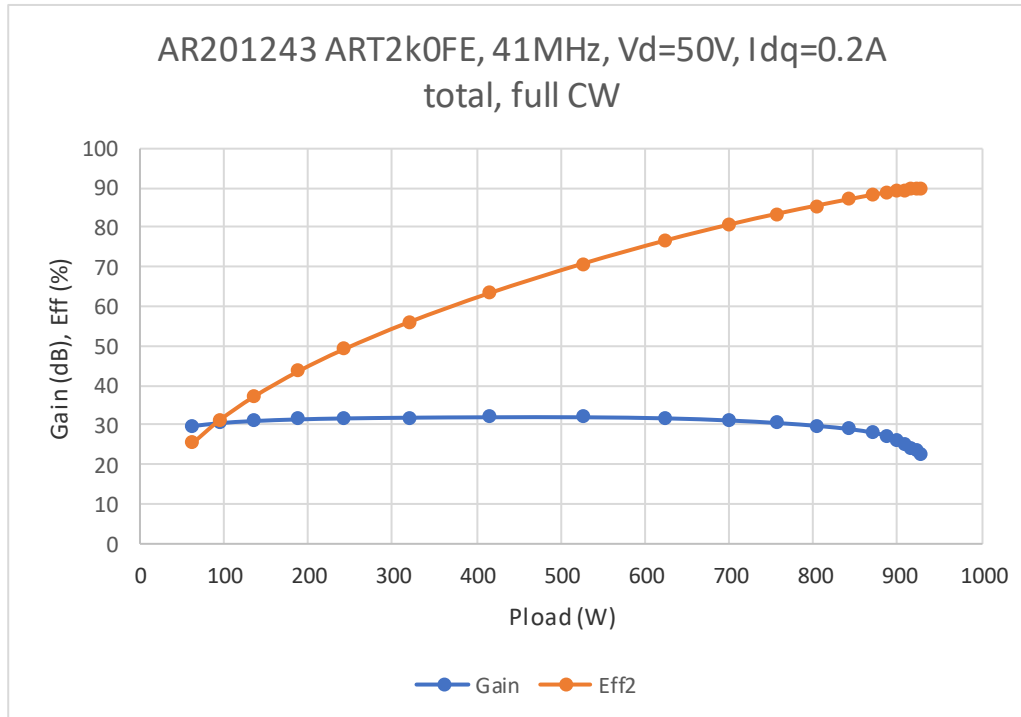

Figure 2 Full CW Gain and Efficiency vs Load power
- 3. List of figures 2
- Figure 2 Full CW Gain and Efficiency vs Load power 4